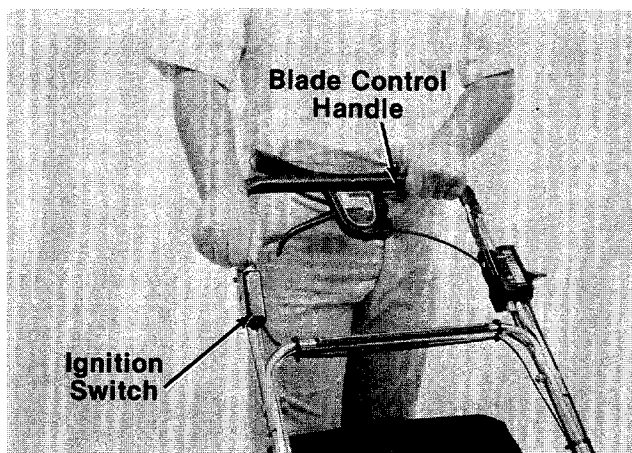

FIGURE 22.
2. Standing behind the unit, depress the blade control handle and hold it against the upper handle as shown in figure 22.